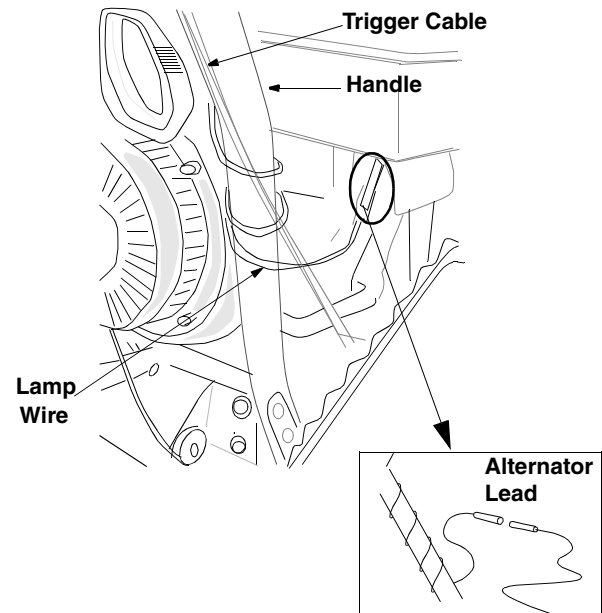

Figure 15
- Wrap the wire from the lamp down the right handle. Plug wire into the alternator lead wire under the fuel tank. See Figure 15.